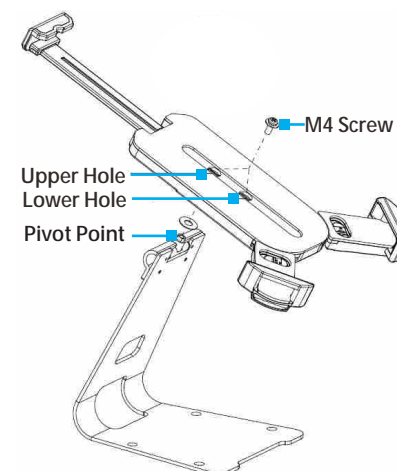

Figure 2
- While the **Tablet Holder Arm (Top)** is fully extended, align the hole in the **Tablet Holder** with the **Pivot Point** on the **Tablet Stand**. Continue to hold the **Tablet Holder**. (Figure 2)